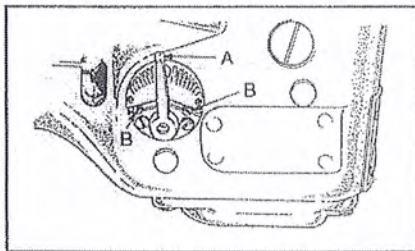

FIG. 19
The amount of differential is controlled by lever (A, Fig. 19). The adjusting plate is numbered from 1 to 9. When the lever is set from numbers 1 to 4 reverse differently or stretching occurs. The numbers from 4 to 5 produce equal feed stitching while numbers 5 to 9 produce a gathering stitch. Screws (B) can be set to limit the movement of lever (A) or lock lever in one position. If top ply of material is coming out long, move lever toward operator, if top ply is short, move lever away from operator, as required.